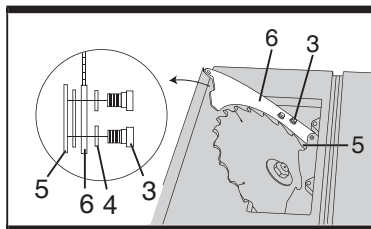

Fig 5
- The riving blade thickness of 2.5 mm. Make sure the blade and riving blade are aligned on the same line. If not, adjust the riving blade by loosening the bolts. It should be less than 5 mm at all positions (See fig. 5).